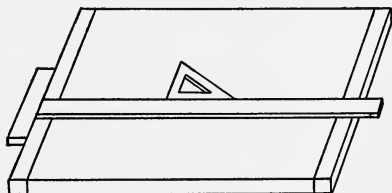

FIG. 47. THE T SQUARE AND TRIANGLE ON THE DRAWING BOARD
The T square is laid with the *head*, that is the short thick piece, against the left hand edge of the drawing board which brings the *blade*, that is the long thin piece flat on and across the board. The triangle is placed against the straight edge. The triangle is laid on the board with one of its edges against the blade of the T square as shown in Fig. 47.
(2) Take a sheet of white paper exactly  $5\frac{1}{8}$  inches wide and 10 inches long and draw two diagonal lines from corner to corner so that they will cross each other, then draw a vertical line through the middle and a horizontal line near the bottom. The diagonal and horizontal lines will be 30 degrees apart.
(3) By laying a 30 degree triangle on your T square and drawing a line along the 30 degree side of it as
shown in Fig. 47; and (4) by laying off 30 degree lines with a protractor.